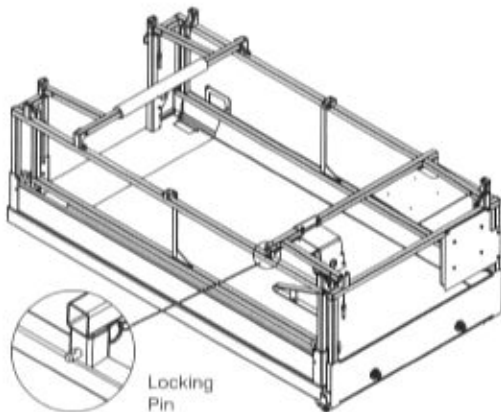

Figure 3-13c. All Guardrails Folded Down
Lock extension guardrail into place on the mounting post. Ensure that the detent ball of the pin is all the way through. (Refer to Figure 3-13c)
6. Remove locking pin from mounting post and carefully raise extension guardrail up and lock into place with locking pins ensuring that the detent ball of each pin is all the way through (Refer to Figure 3-13c).